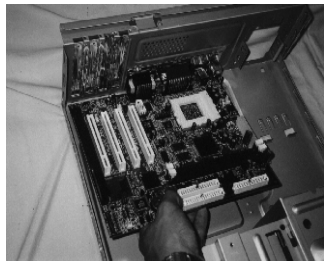

Fig:9
- D. Install at an angle, first by lining up the I/O ports on the M/B with I/O plate (Fig. 9).